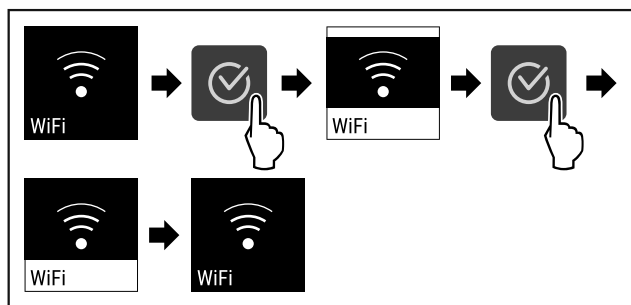

Fig. 86
- ▶ Complete the steps (see Fig. 86).